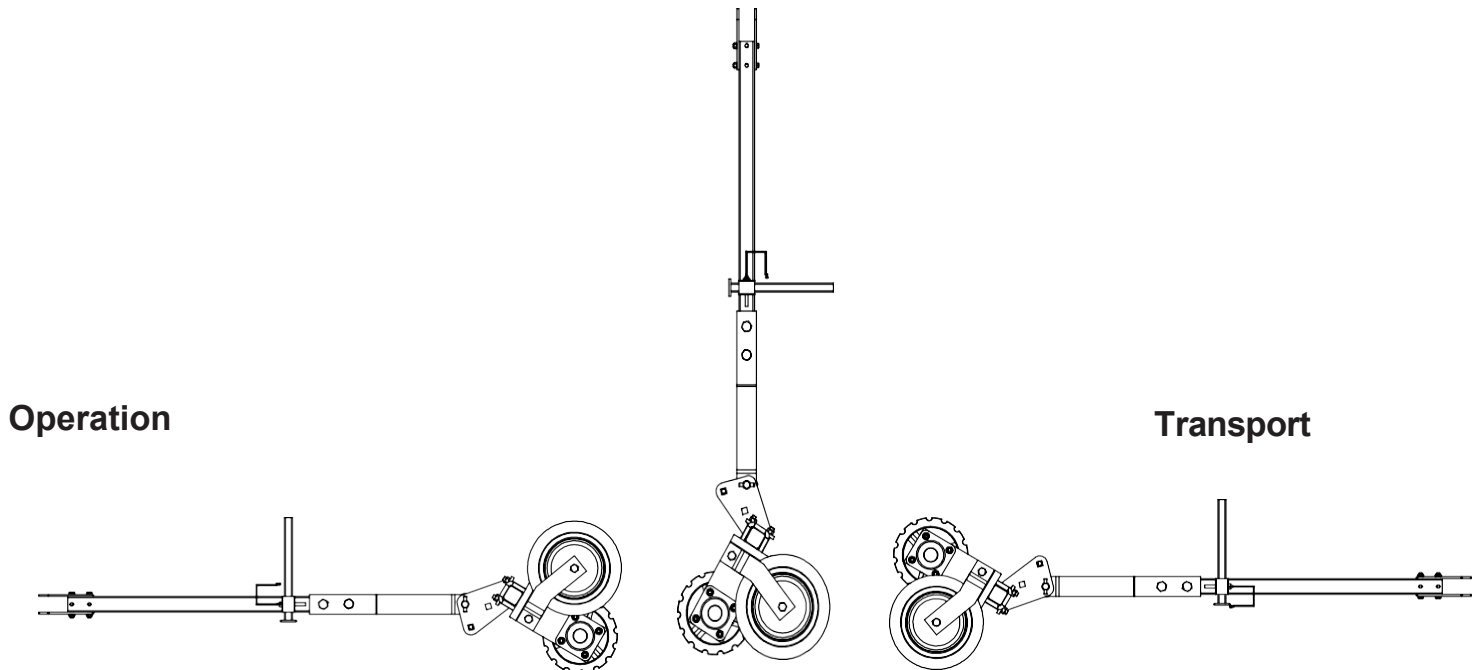

Figure 19.
4. Position yourself on the opposite side of the Cultipacker and rotate the tongue into the operating or transport position as shown in Figure 19.